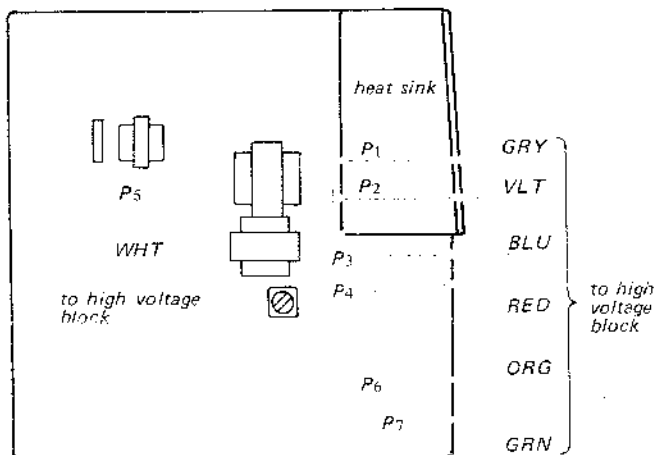

Fig. 2-18
3. Unsolder the four lead-wires on the EF board labeled P1-P4 in Fig. 2-18.
4. Pull out the three pin-plugs on the EF board labeled P5-P7 in Fig. 2-18.